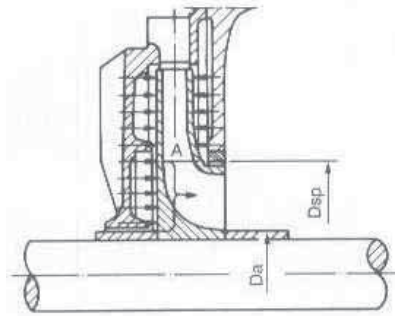

Fig.3 - Impeller axial thrust
- (3) The speed can be exceeded by 10% for a short period time, considering the allowable pressure limitations according to figure 3
- (4) Shaft with two keys for drive.
An axial force A , which is caused by the differential pressure from the area between DSP (wear ring inner diameter) and $e Da$ (stage sleeve diameter) acts on each impeller. See Figure 3. This axial thrust tends to displace the impeller to pump suction side.